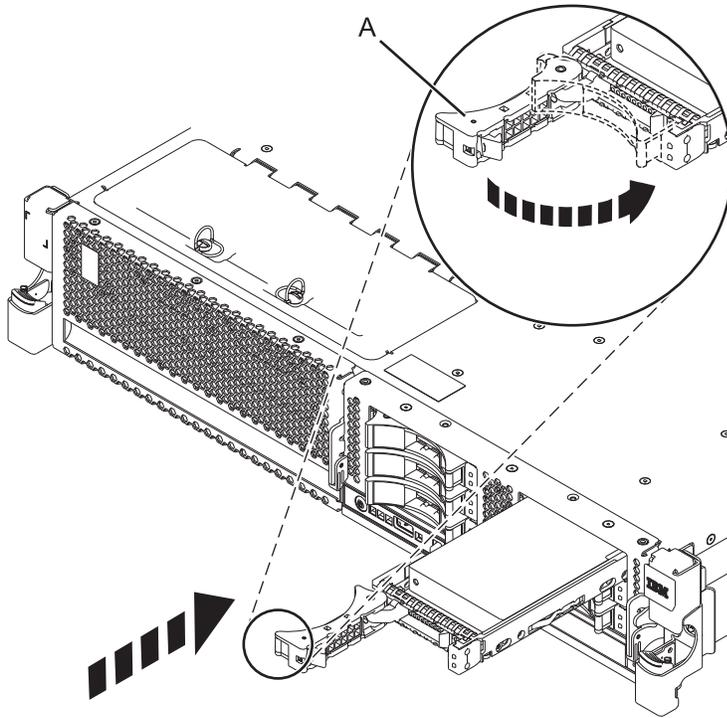

Figure 1. Installing the disk drive in the 8231-E2B, 8231-E1C, or 8231-E2C
10. Slide the disk drive all the way into the system or expansion unit, and push the disk drive handle (A) in until it locks, as shown in Figure 1 on page 11. The service indicator on the disk drive turns on.